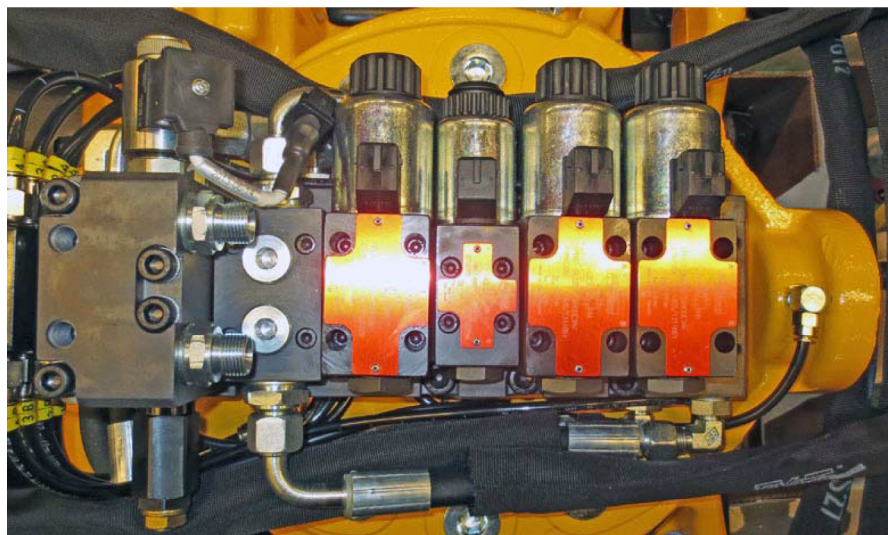

Figure 15. Contact position, SS5 and SS10 (EC214)
2. Connect the electrical connections to the electromagnets as marked previously (see Figures 15, 16, 17 and 18 for examples of contact positions)